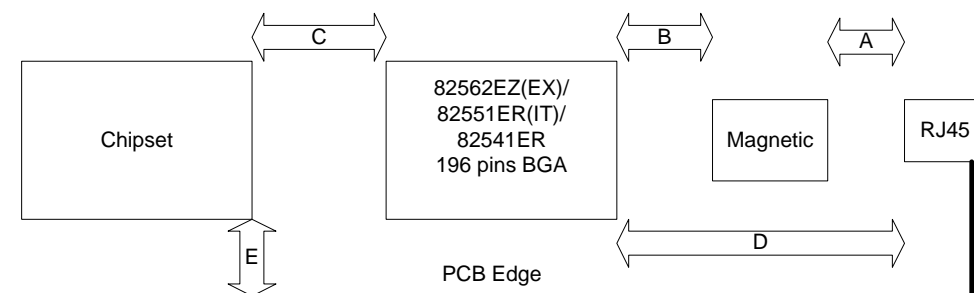

Figure 4. Critical Dimensions for 82562EZ(EX), 82551ER(IT) and 82541ER Component Placement
There are four critical dimensions that must be considered during the layout phase of an 82541ER, 82551ER(IT), and 82562EZ(EX) LAN On Motherboard (LOM) implementation. These dimensions are identified in Figure 4 as A, B, C and D.